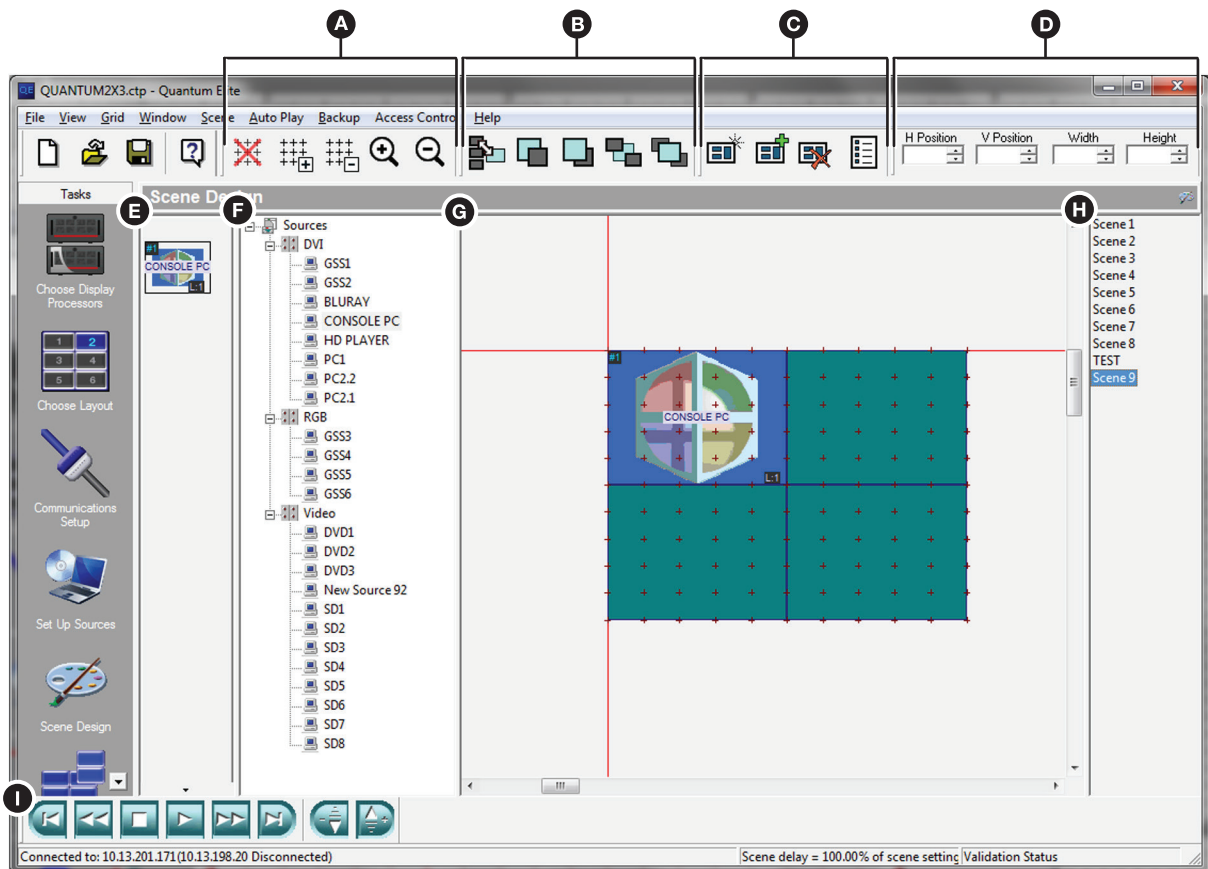

Figure 24. Main Features and Toolbars of the Scene Design Task
The Scene Design Workspace opens (see figure 24 on the previous page).
1. Click the  button on the Scene Properties toolbar (see figure 24, **C**). The Scene Properties dialog box opens.
1. Select a scene in the scene list of the Scene Design workspace and click the  button on the Scene Properties toolbar (see figure 24, , on page 41)
1. Select a scene in the scene list of the Scene Design workspace and click the button on the Scene Properties toolbar (see figure 24, , on page 41)
1. Select a scene in the scene list of the Scene Design workspace and click the button on the Scene Properties toolbar (see figure 24, )
You can change the order of the scenes in the scene list. When using the Auto Play option, scenes are recalled in the order that they appear in this list. You can use the Scene Control toolbar, scene list, and keyboard to navigate to the scene you want to view or edit. To move a scene in the scene list, drag and drop the scene title to a new position in the scene list (see figure 24, ①, on page 41).
In the Scene Design workspace, the target display is represented by the virtual display area and each window that can be placed on the display is represented by a virtual window (see figure 24, ⑥). Each window that appears on the display has a source associated with it. On the Scene Design page, you can create windows and add them to the display as desired. The contents of each window can be the same or can differ between scenes.